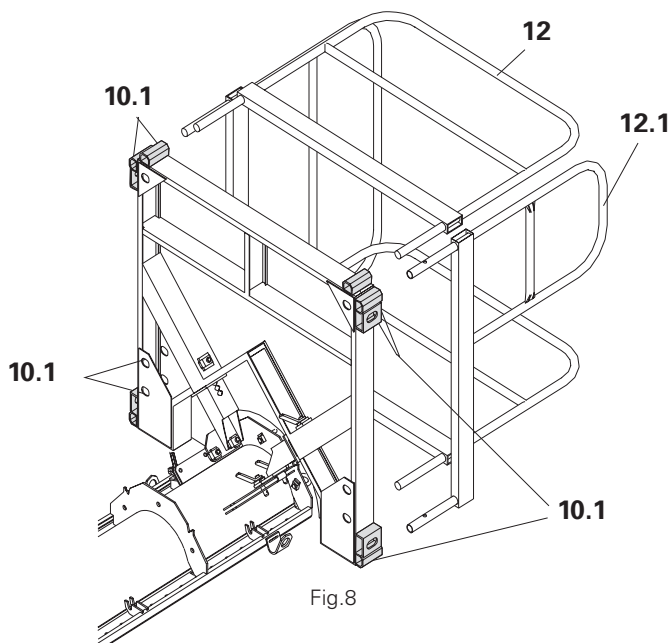

Fig.8
5. Insert handrail **12** and access handrail **12.1** into the holders **10.1**. The platform is assembled. Fig. 8